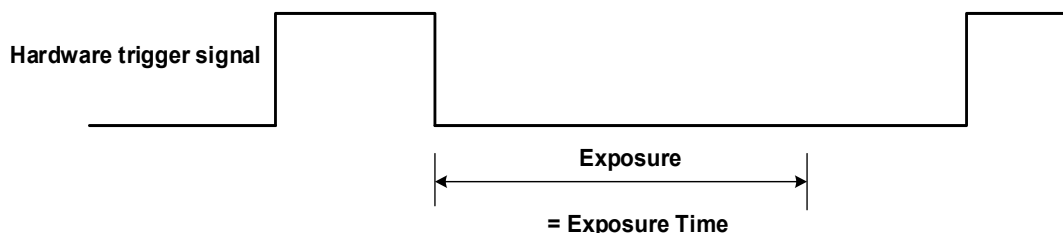

Figure 8-27 The sequence diagram in falling edge trigger of Timed exposure mode
- If falling edge triggering is enabled, exposure starts when the trigger signal falls and continues until the exposure time has expired, as shown in Figure 8-27.